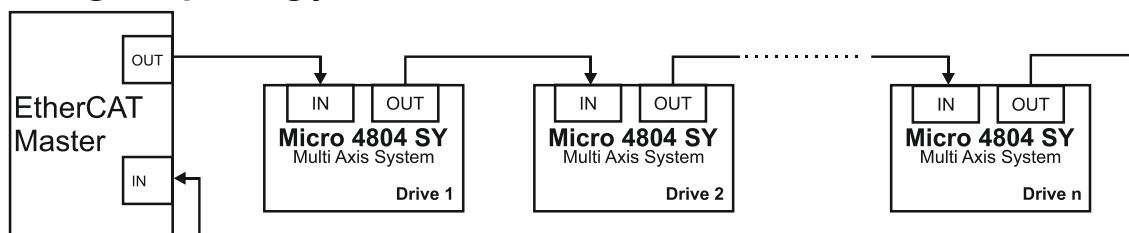

Figure 37 EtherCAT network ring topology
- Ring, when the OUT port of the last drive in the chain is connected back to the master controller, on the 2nd port of the master. This topology consists of the linear topology described above, plus an extra connection between the master, which has two RJ45 ports, to OUT of the last drive. See **Figure 37** for a visual representation of the ring topology.